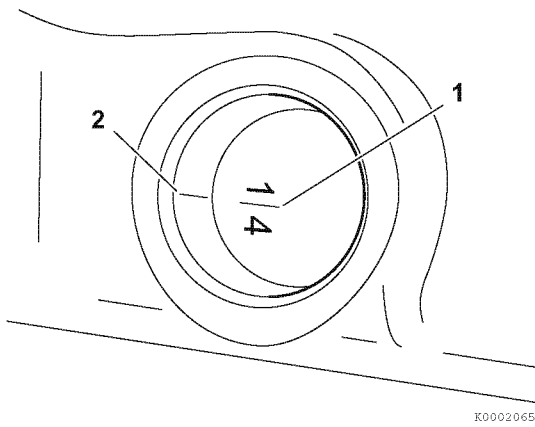

Figure 7-46
- Highlight the timing reference mark (**Figure 7-46, (2)**) on the flywheel housing or engine back plate (**Figure 7-47, (2)**). Highlight the TDC (Top Dead Center) mark (**Figure 7-46, (1)**) on the flywheel.